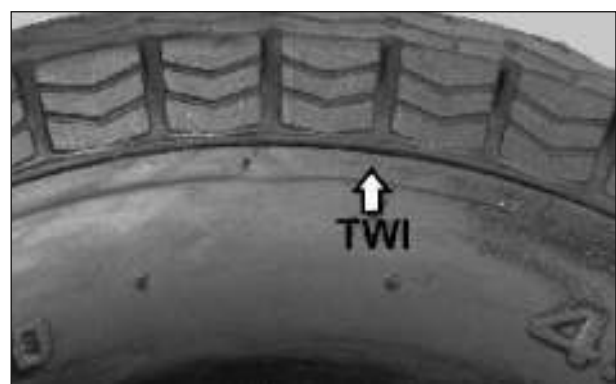

Fig. 5.6
**Note:** Tyre depth can also be checked by Tyre Wear Indicator (TWI) (Fig. 5.6)